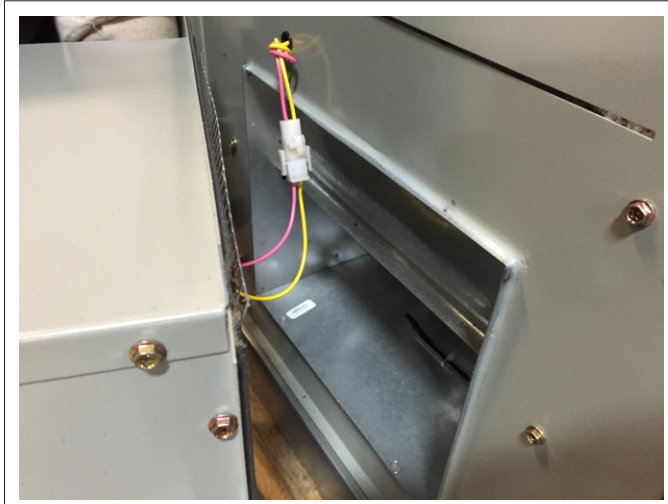

FIGURE 2
1. Install exhaust hood assembly shipped with ERV on pallet using screws provided in accessory box. On units with motorized exhaust damper connect Plug (P.161) to jack after removing PK-3 jumper before attaching hood with screws. **See Figure 2.**